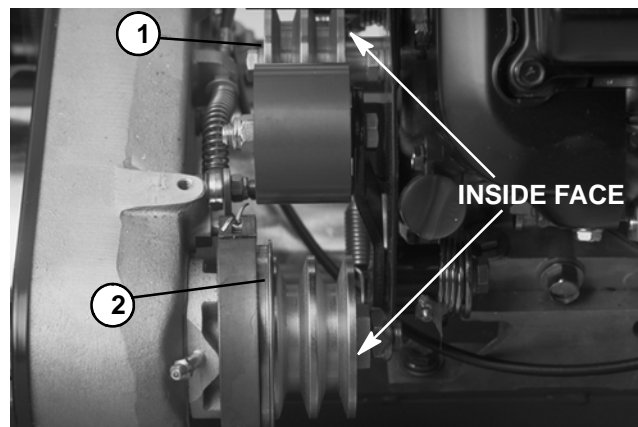

Figure 6
A. Inside pulley faces should be flush to each other to within 0.030 inch (0.762 mm) maximum (Fig. 6).